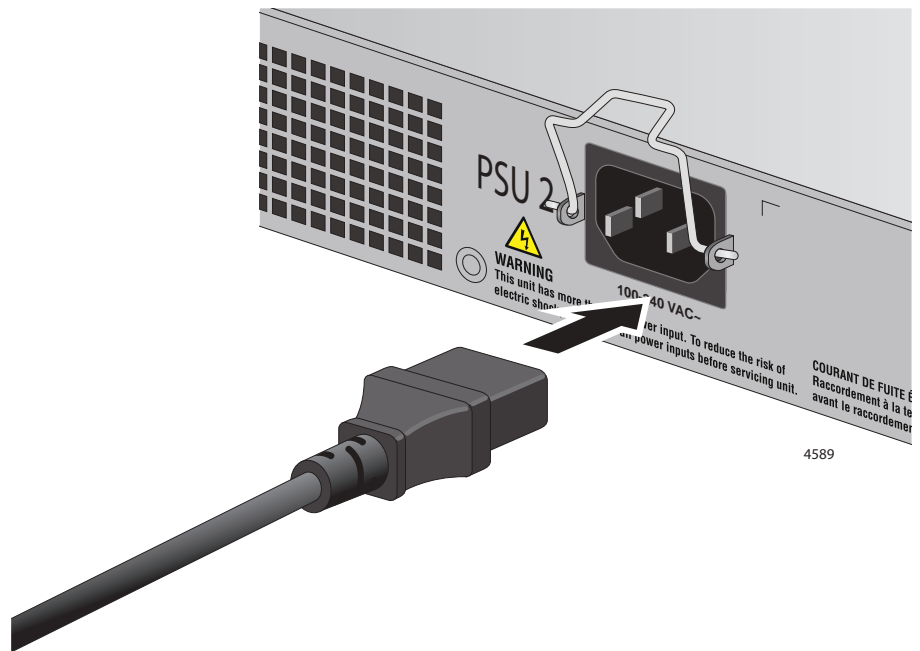

Figure 38. Connecting the AC Power Cords
2. Connect the AC power cord to the AC power connector on the rear panel. Refer to Figure 38 on page 85.